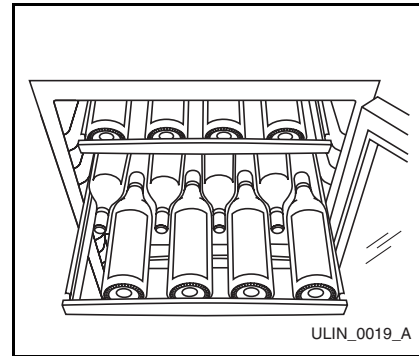

Figure 8
2. Repeat Step 1 to stock the next higher rack, and continue until all racks are filled (**Figure 8**).